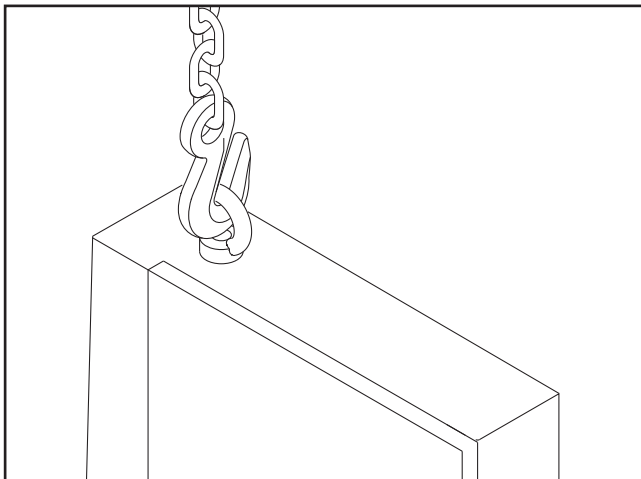

Figure 20. Lifting the bandsaw.
3. Install eye bolt shown in **Figure 20**. Make sure it is threaded all the way in, then place lifting hook through eye bolt and lift slowly with a forklift.